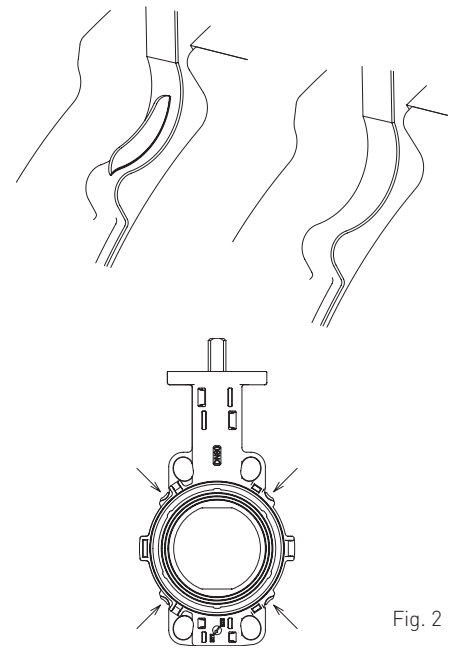

Fig. 2
- Remove the 4 snap-off nibs for installing the valve between AS2129 E flanges DN 80 only (Fig. 2).